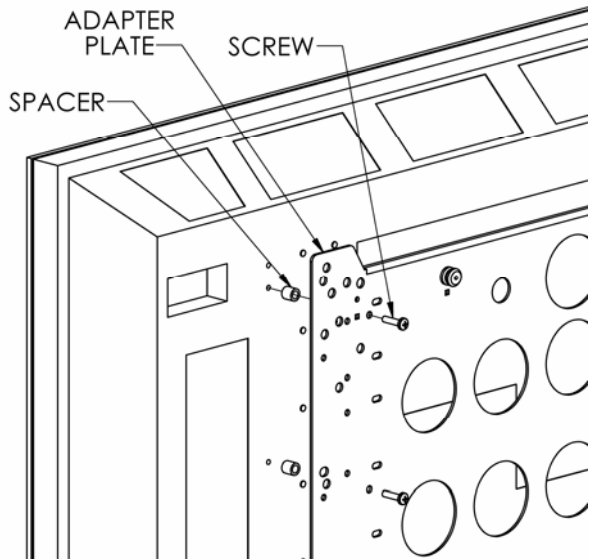
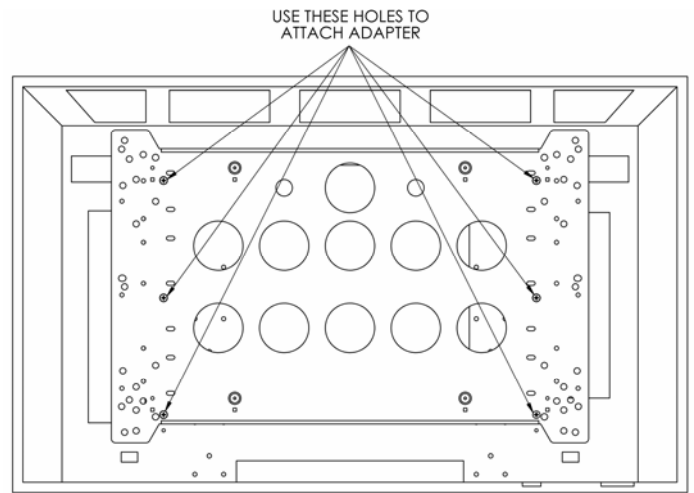

Figure 4
Figure 5
3. Secure the mounting brackets to the display using the M6 screws (see Figure 4 & Figure 5).